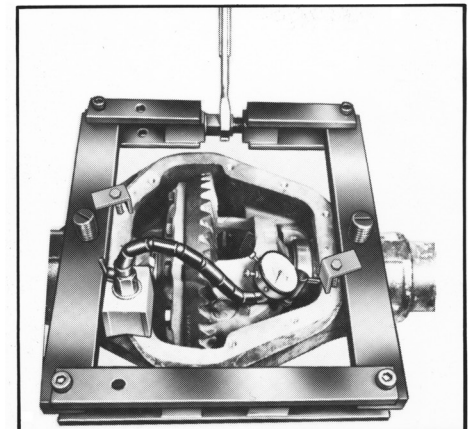

FIGURE 2
6. Position a dial indicator as shown in Figure 2. Spread the carrier housing by turning the clevis screw. **CAUTION:** Do not spread the carrier housing beyond the manufacturer's specifications or damage can occur.